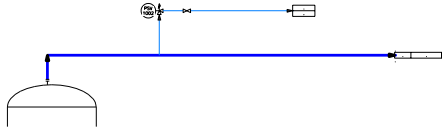

Figure 2-81 Location of utility connector and off page connector
4. Choose the **Utility Connector** tool from the **Off Page Connectors and Tie-In Symbol** area of the **Non-engineering** tab of the **TOOL PALETTES - P&ID PIP** and place them at the locations shown in Figures 2-81 and 2-82.